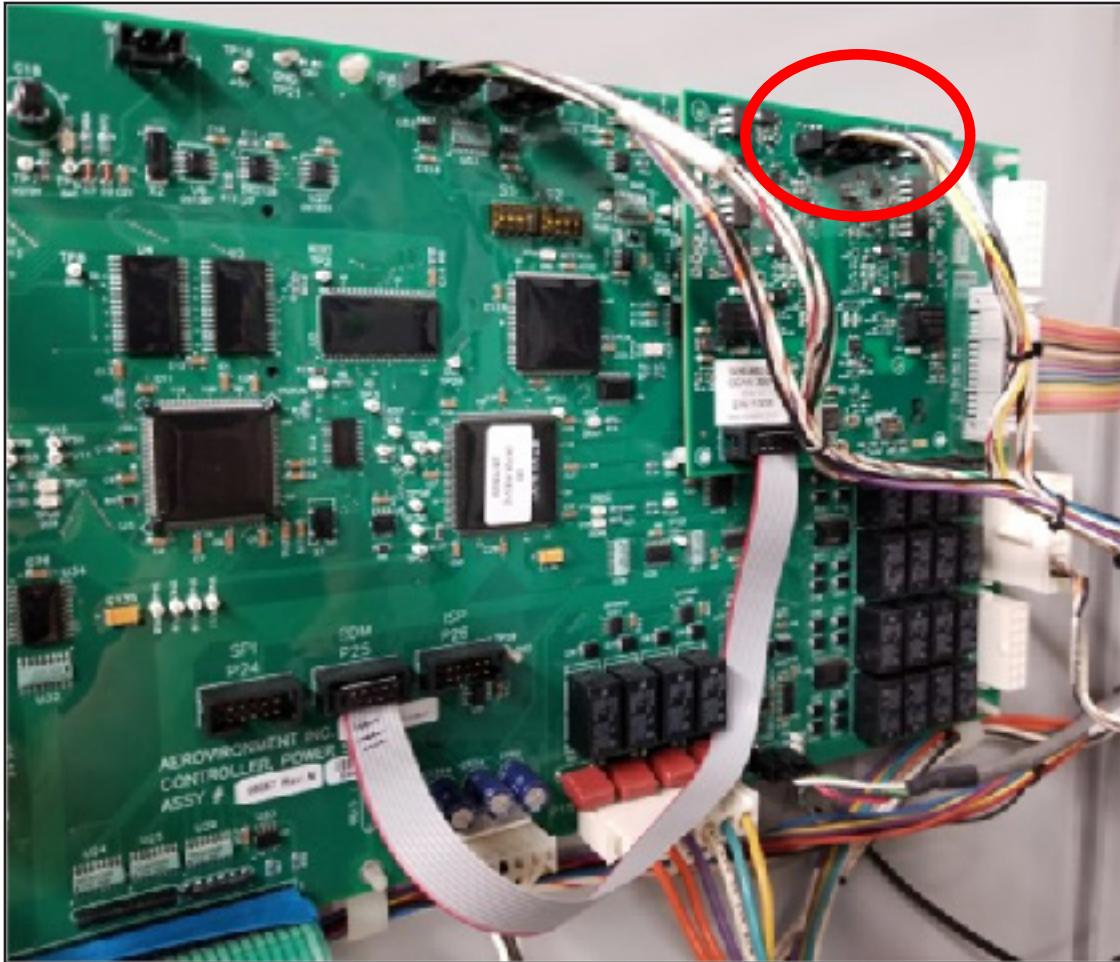

**Figure 8 – GCAN Board Connected to the 5VDC Supply at Port 25 on the GSE Control Board with the Ribbon Cable**
**3.3.3 – Connect the GCAN board ribbon cable connector to the GCAN board ribbon cable port (Figure 8, A) and the P25 ribbon cable connector to the P25 ribbon cable port (to the 5VDC6 supply) (Figure 8, B) on the GSE control board.**